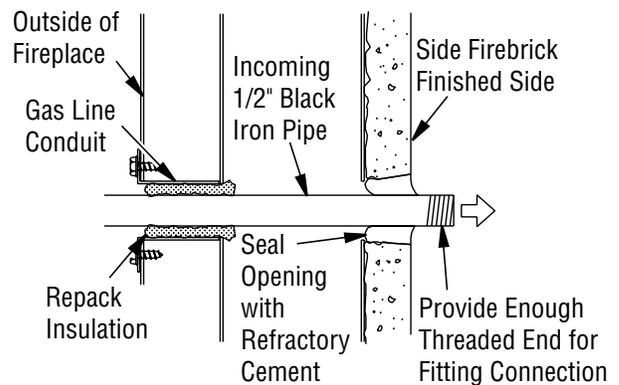

Figure 21 - Gas Line Installation
3. Install the left and right firebrick walls. Angle the wall into the fireplace opening and into the slots on the side of the hearth (**Figure 21**), then tilt the top of the panel toward the firebox surround.
3. Run a 1/2" black iron gas line into fireplace through the rear at gas line conduit sleeve (if using a raised platform, add height). Provide sufficient gas line into fireplace chamber for fitting connection (see **Figure 21**).